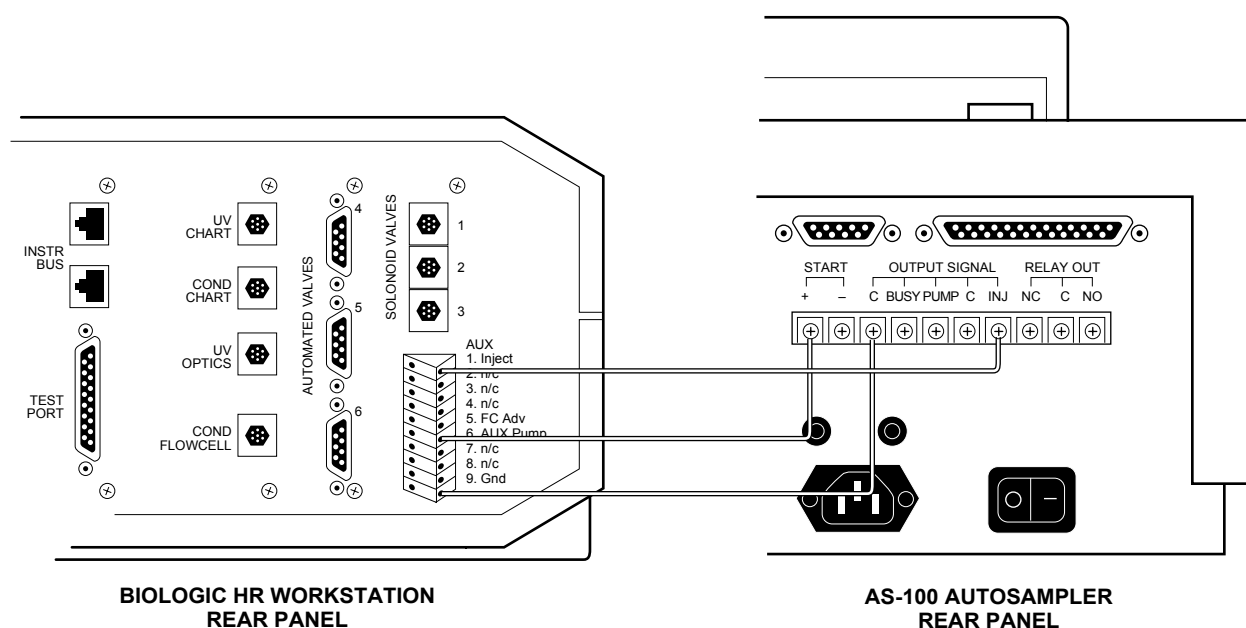

Figure 59. Rear view of AS-100
- Using three wires, connect as described below (see Figure 59):